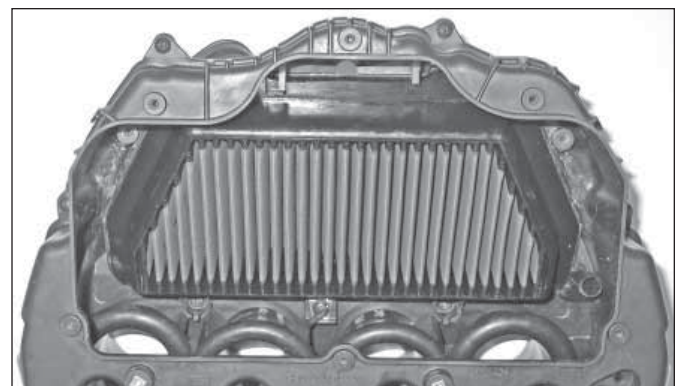

Fig. 4
5. Install the K&N® air filter into the groove in the air box. (Fig.4)